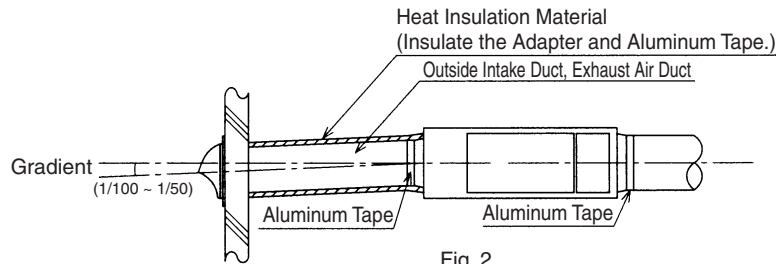

Fig. 2
4. Install two outdoor ducts so they will be in the down gradient toward outside to prevent water from coming in. (Gradient : 1/100~1/50) (Fig. 2)
5. Never fail to heat-insulate two outdoor ducts (including outside air and exhaust air duct) to prevent dewing. (Material : Glass Wool, Thickness-25mm) (Fig. 2)